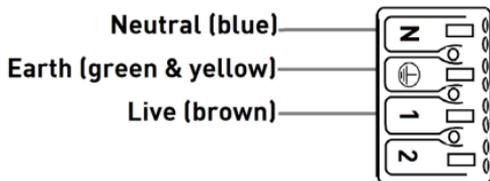

Fig. 5
- Ensuring correct polarity is observed, carefully wire as shown in Fig. 5